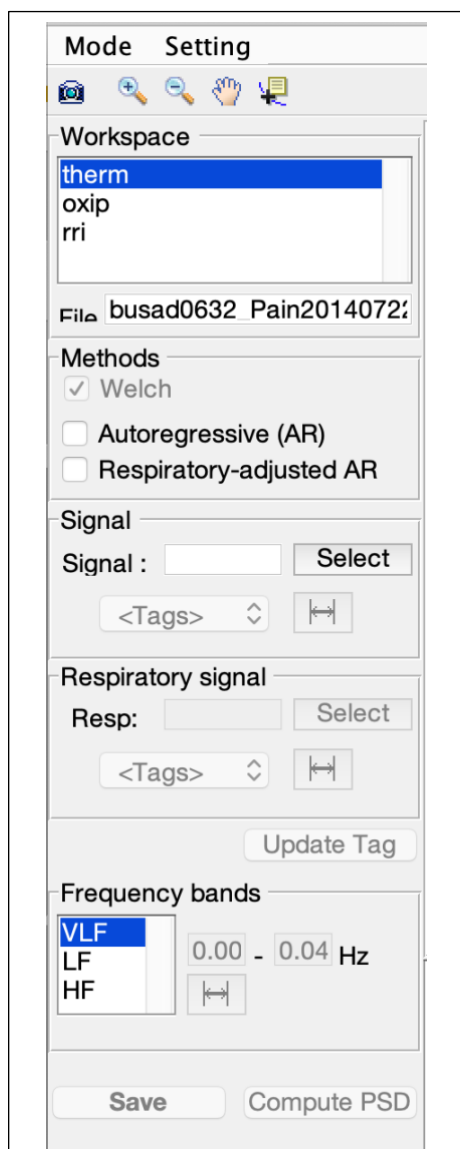

Figure 3-1. Normal analysis mode of Stationary PSD
- 1) When Stationary PSD window is open, go to the top left of the window and select the tool bar titled “**Setting**” (Fig 3-1.).